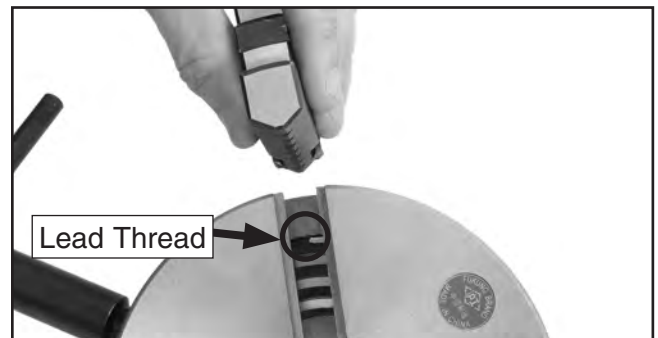

Figure 21. Lead thread on scroll gear.
6. Rotate the chuck key clockwise until you see the tip of the scroll-gear lead thread just begin to enter a jaw guide (see **Figure 21**).